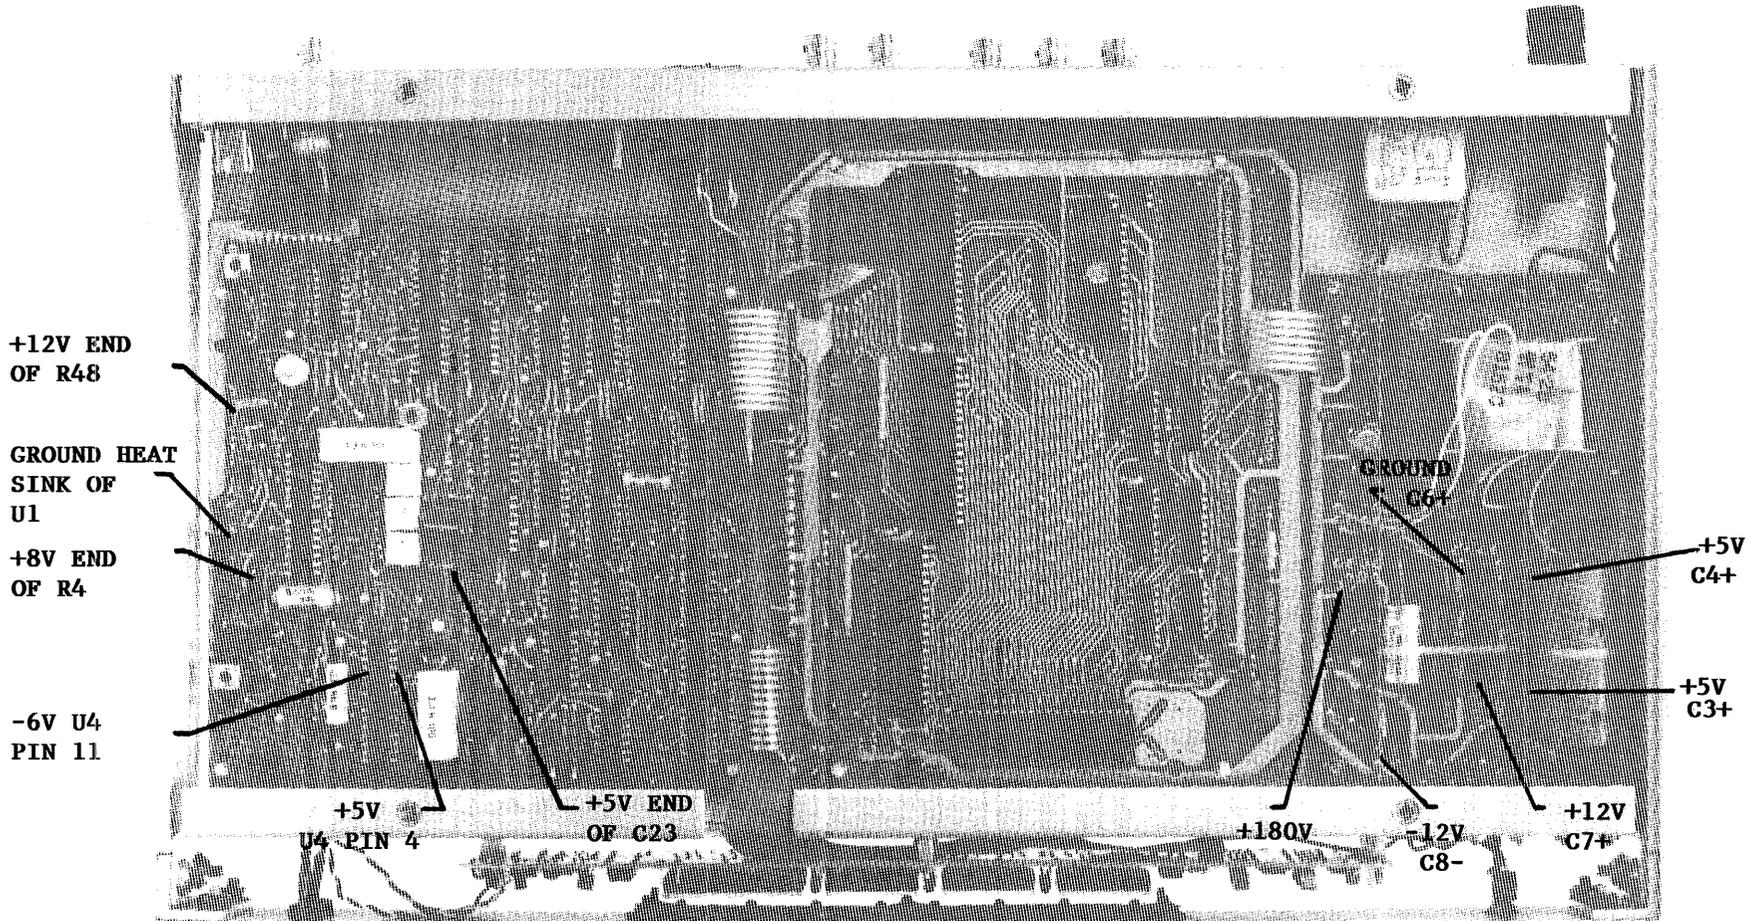

FIGURE 5-4 VOLTAGE TEST POINT LOCATIONS - MODEL 468-DC
- 5-21        If no analyzer is available, make a dummy load using a 50 Ohm resistor in series with a 0.1 micro F capacitor (see FIGURE 5-4). Connect this load to the antenna input BNC. Look at TP1 with a scope capable of responding to 20 MHz and tune T1 for maximum output.